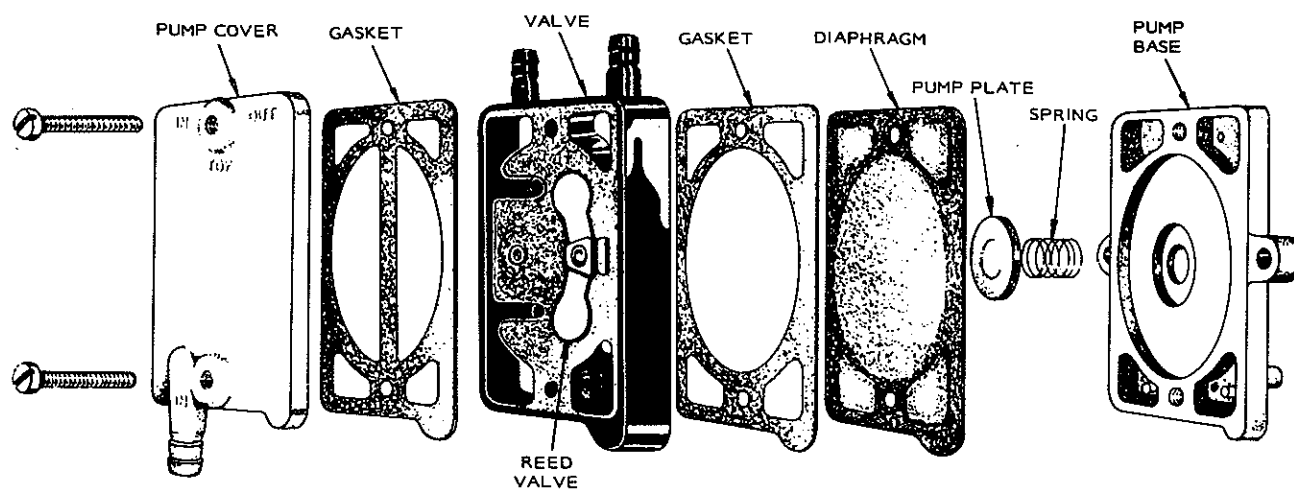

FIGURE 7-5. BF ENGINE PULSATING DIAPHRAGM FUEL PUMP
Pulsating diaphragm fuel pumps use a combination of crankcase and spring pressure to work a diaphragm thus pumping fuel. This pump may be mounted to the side of the carburetor or, in some tractor applications, on the upper right hand corner of the blower housing. Refer to Figure 7-5 while reading the following functional description or servicing the pump.
7. Replace gaskets and reassemble pump as shown in Figure 7-5.